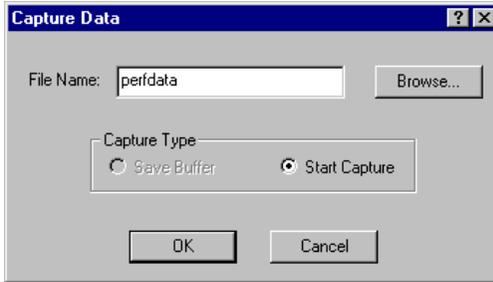

Figure 5-35. Capture Data to a File
1. Click Capture Data. A Capture Data dialog box is displayed (Figure 5-35).